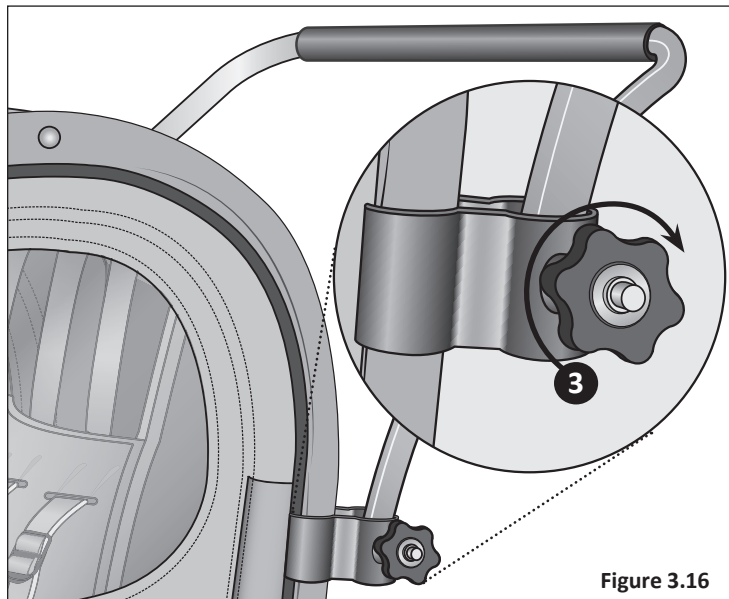

Figure 3.16
- 3 Tighten the attachment knobs (both sides) until they are firmly in place. **Figure 3.16**